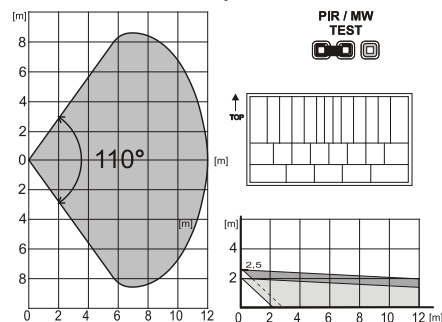

Fig 2: Coverage characteristics can be changed by using an alternative lens:
The **PIR detector** is equipped with a 110°/12m lens. Coverage – see Fig 2. Check the coverage with the jumper (8) in the **“PIR”** position. Movement is indicated by a red LED.